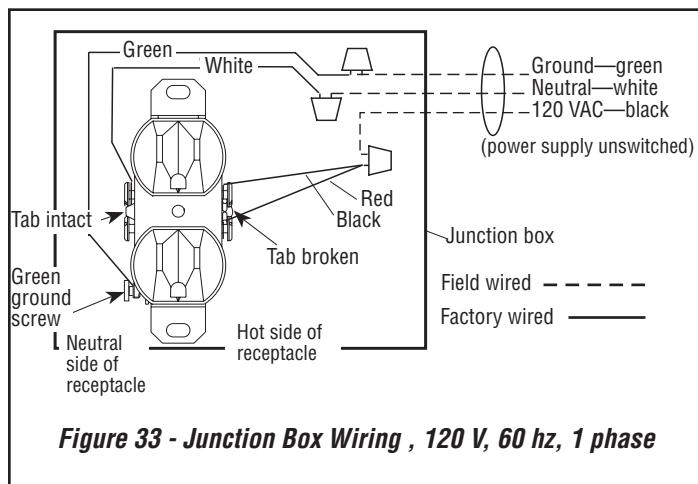

Figure 33 - Junction Box Wiring , 120 V, 60 hz, 1 phase
3. Connect the black power supply wire to the power outlet red and black pigtailed together (*Figure 33*). Connect the white power supply wire to the outlet common terminal.